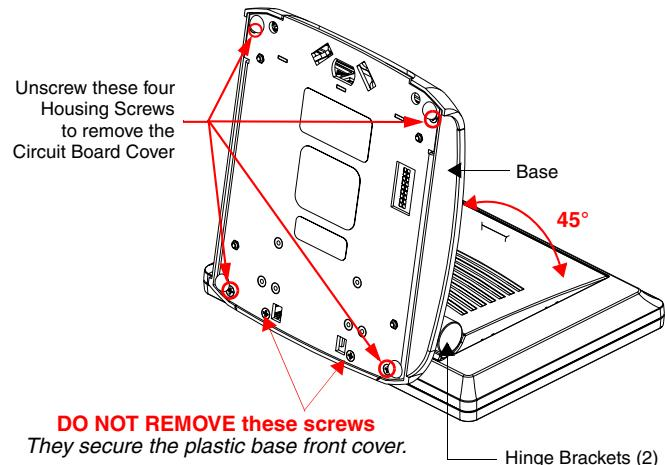

FIG. 6 Location of the attachment screws underneath an NXT panel base
1. Carefully detach all connectors from the rear of the touch panel and then gently place the touch panel LCD facedown onto a soft cloth to expose the under-side of the base (FIG. 6). This step helps prevent scratching of the LCD.
3. While holding the outer housing and base plate at a 45° angle (to prevent it from sliding), use a grounded Phillips-head screwdriver to remove the four Housing Screws (FIG. 6).
- While holding the circuit board cover in place, turn the panel back over until the LCD lies facedown on a soft cloth and the under-side of the base is exposed (FIG. 6).
- Insert and secure the four Housing Screws (using a grounded Phillips-head screwdriver) in their respective locations (FIG. 6).